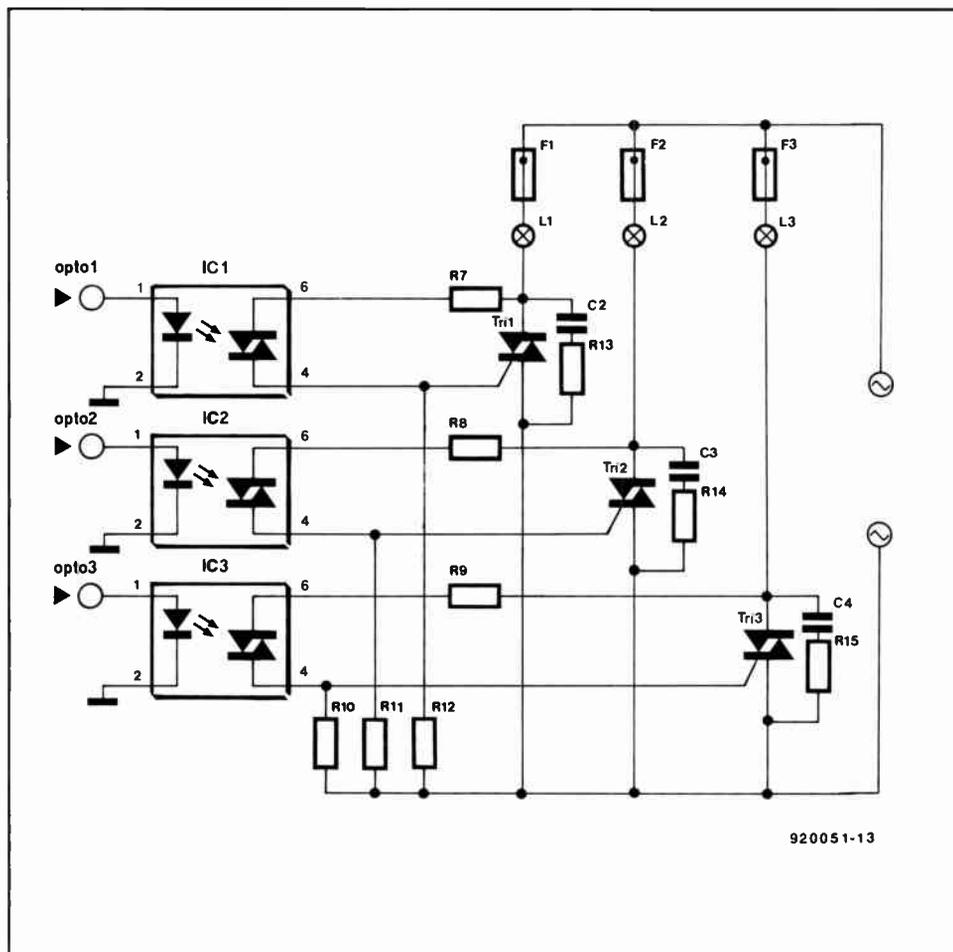

Fig. 2. Automatic/manual control circuit.
The pulse generator is built around a Type 4047 monostable/astable multivibrators shown in Fig. 2. Three different clock signals are available: (a) at pin 13 (oscillator output); (b) at pin 10 (Q); and (c) at pin 11 (Q). The pulse width (on-time) is controlled through an RC circuit connected between pins 1, 2, and 3.
The circuit in Fig. 2 is best constructed on an individual small PCB. The location of photoresistor R16 depends on individual requirements. Adjust P2 for the desired level of 'darkness' as indicated by the lighting of D0 (and the relay changing state). The pulse width is controlled by P1, which is normally set for a value of 330 ms (≈3 Hz).